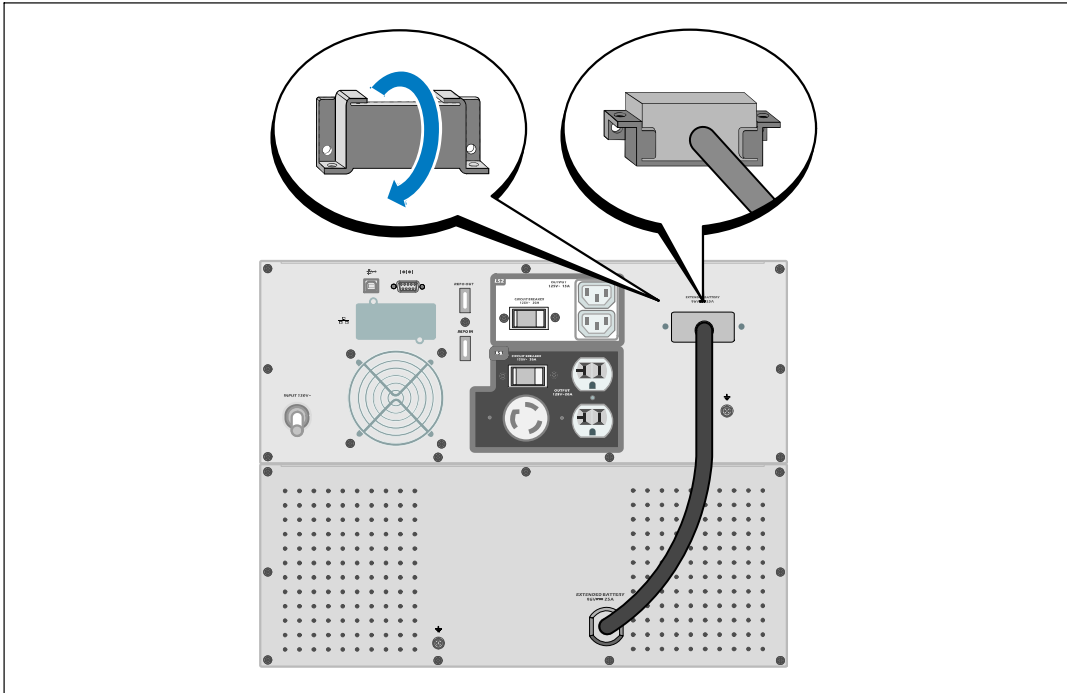

Figure 16. Installing the Strain Relief Bracket
- 2 Install the battery connector cover under the EBM cable to provide strain relief (see Figure 16). Rotate the battery connector cover on its side and position under the EBM cable.